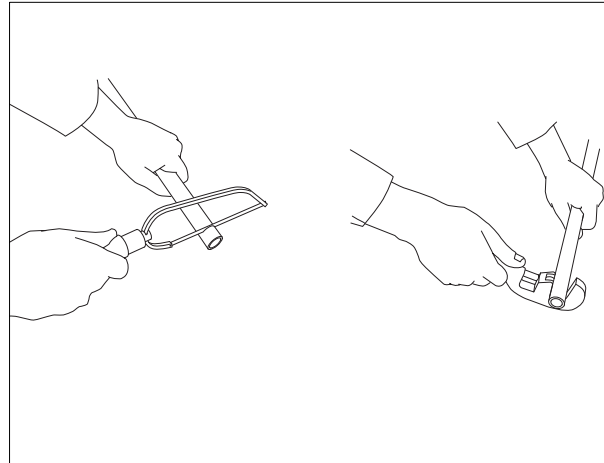

Fig. 2 Cutting to length
- Make a square cut through the copper pipe using a saw or a pipe cutter (Fig. 2, **Item 1** and **2**).